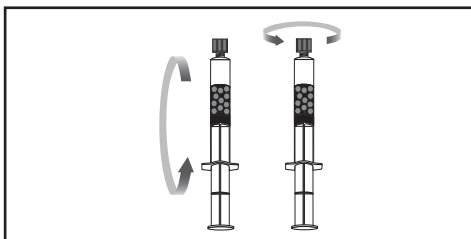

Figure 5b.
- 2.3 Mix by gently inverting/swirling the loading syringe every 5 minutes (Figure 5b). Hard shaking may cause foam.